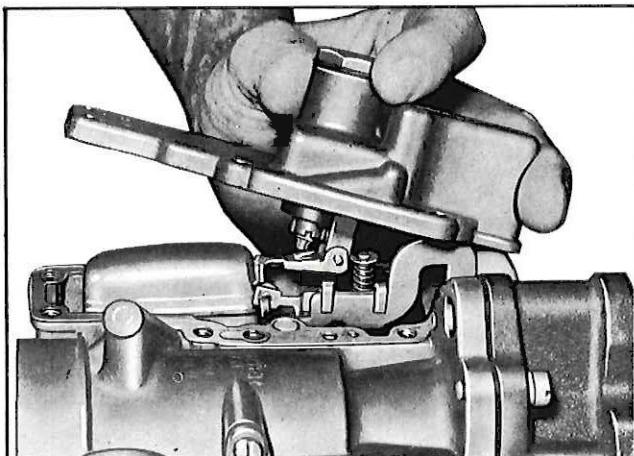

Fig. 7—Removing Bowl Cover
2. Remove six bowl cover screws and remove bowl cover (fig. 7).